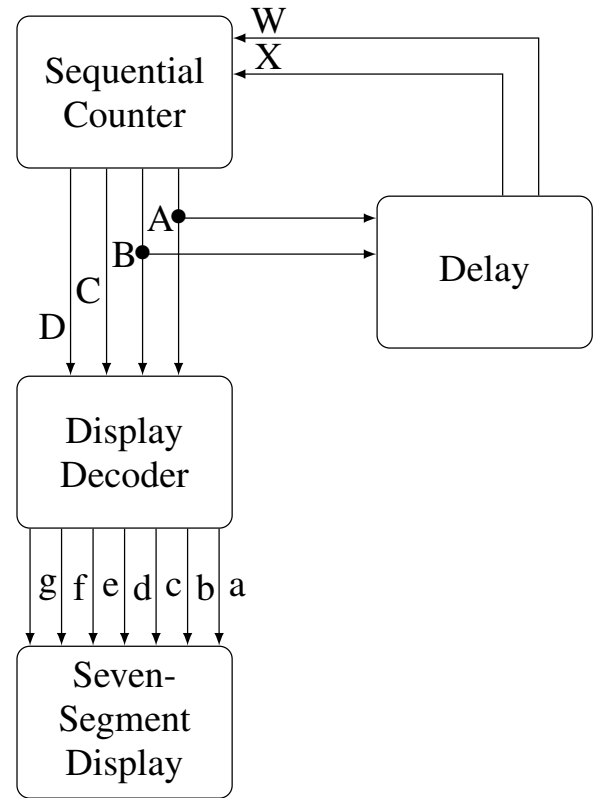

Fig. 2: The Synchronous counter with LED Display
1. Connect the Vaman board, 7447, 7474 as per the details mentioned in Table 2 and Fig 2